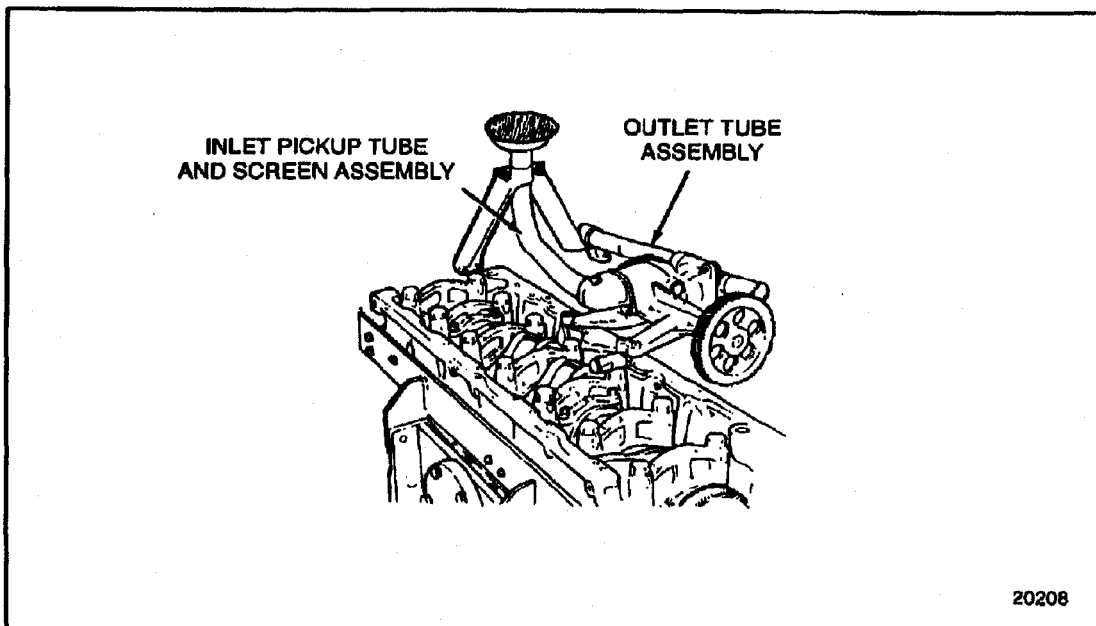

Figure 1-255 Oil Pump Removal (Pre-1991 Engines)
4. For pre-1991 engines, disconnect and remove the lubricating oil pump inlet pipe and screen assembly, oil pump outlet pipe and lubricating oil pump. Refer to section 3.2.2. See Figure 1-255.